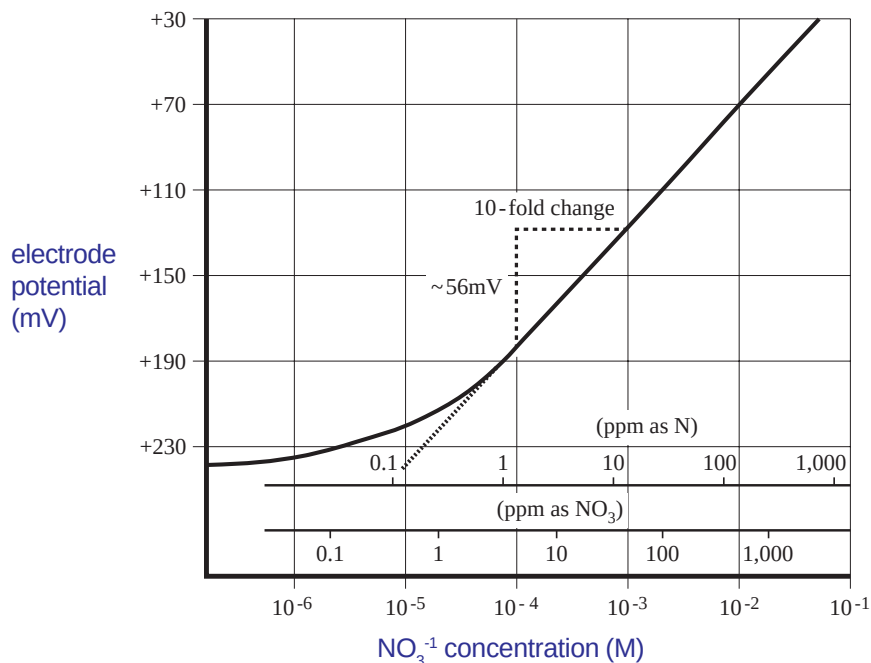

Figure 3
5. Using the semi-logarithmic graph paper, plot the Voltage reading in the Digits Display (linear axis) against the concentration (log axis). Extrapolate the calibration curve down to about 1.0×10^{-5} M ($1.0 \text{ ppm NO}_3^{-1}$). A typical calibration curve can be found in Figure 3.
- On semi-logarithmic graph paper, plot the voltage reading on the Digits display (linear axis) against the concentration (log axis) as in Figure 3.
Plotting the electrode potential against the nitrate concentration on semi-logarithmic paper results in a straight line with a slope of about 55 mV/decade. (Refer to Figure 3.)
The lower limit of detection is influenced by the slight water solubility of the ion exchanger used in the sensing portion of the electrode. Refer to Figure 3 for a comparison of the theoretical response to the actual response at low levels of nitrate. Nitrate measurements below 10^{-5} M NO_3^{-1} (0.6 ppm as NO_3^{-1}) should employ low level procedures.